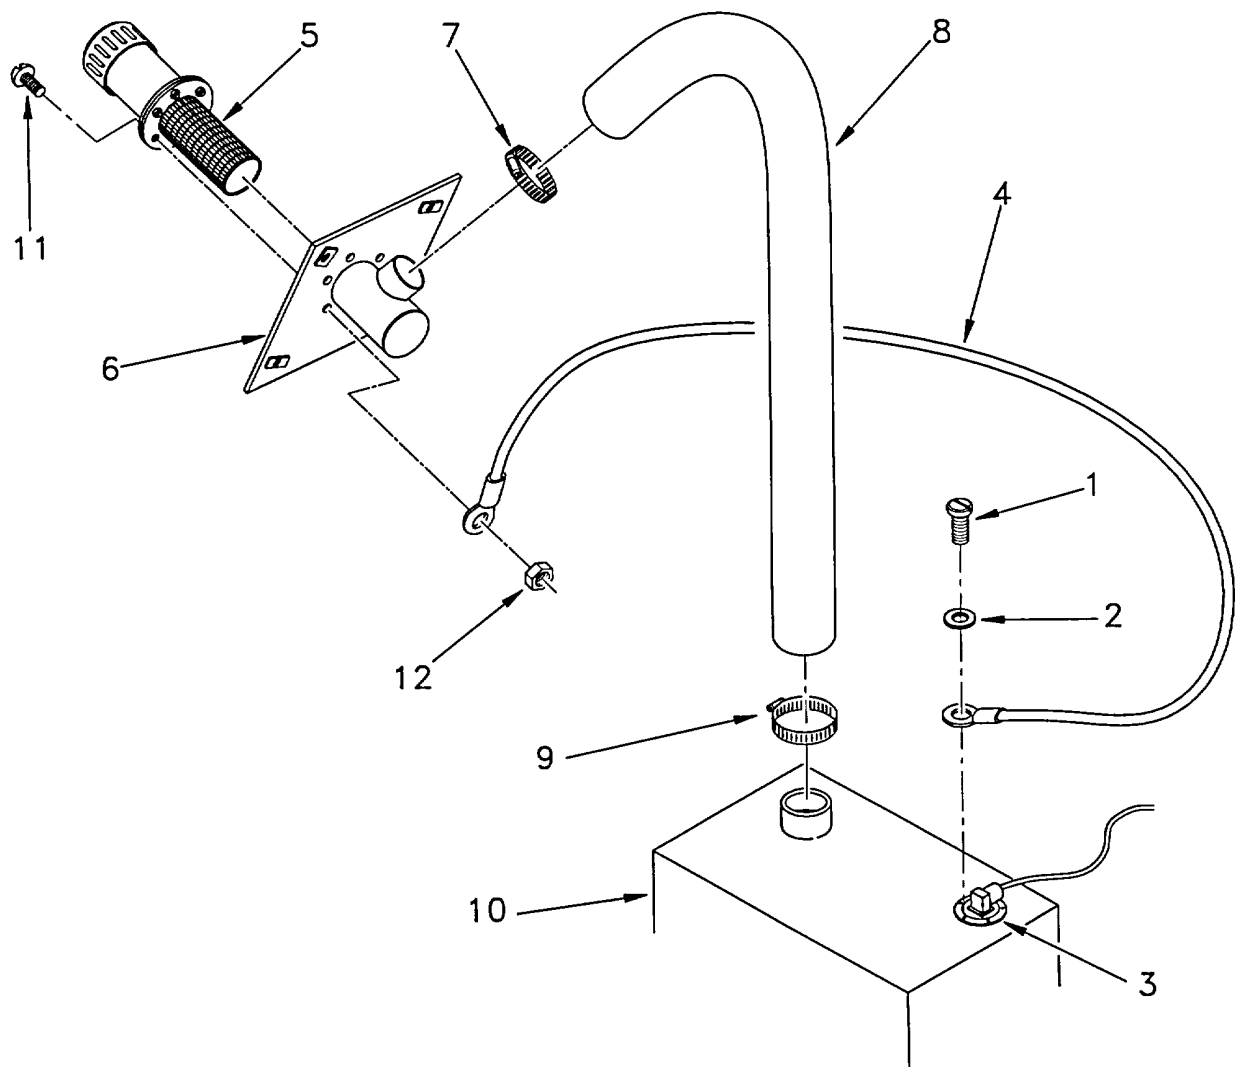

Figure 4-8. Fuel Cap and Neck Assembly
a. Removal. (Refer to Figure 4-8.)
- (1) Remove pan head screw (1) and lockwasher (2) from fuel level sending unit (3), holding ground wire (4). Discard lockwasher (2).
- (2) Loosen clamp (7) and slide down on hose (9). Loosen clamp (9 from fuel tank (10) sliding it up on hose (8).